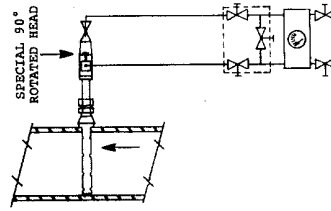

FIGURE 1.2 STEAM, LIQUID, GAS
1.2.3.2 An installation in a vertical pipe should only be performed when a horizontal line location is not available. This installation should be as in Figure 1.2. A special "rotated head" Accutube is normally used. This permits side port connection, allowing installation similar to Figure 1.2.